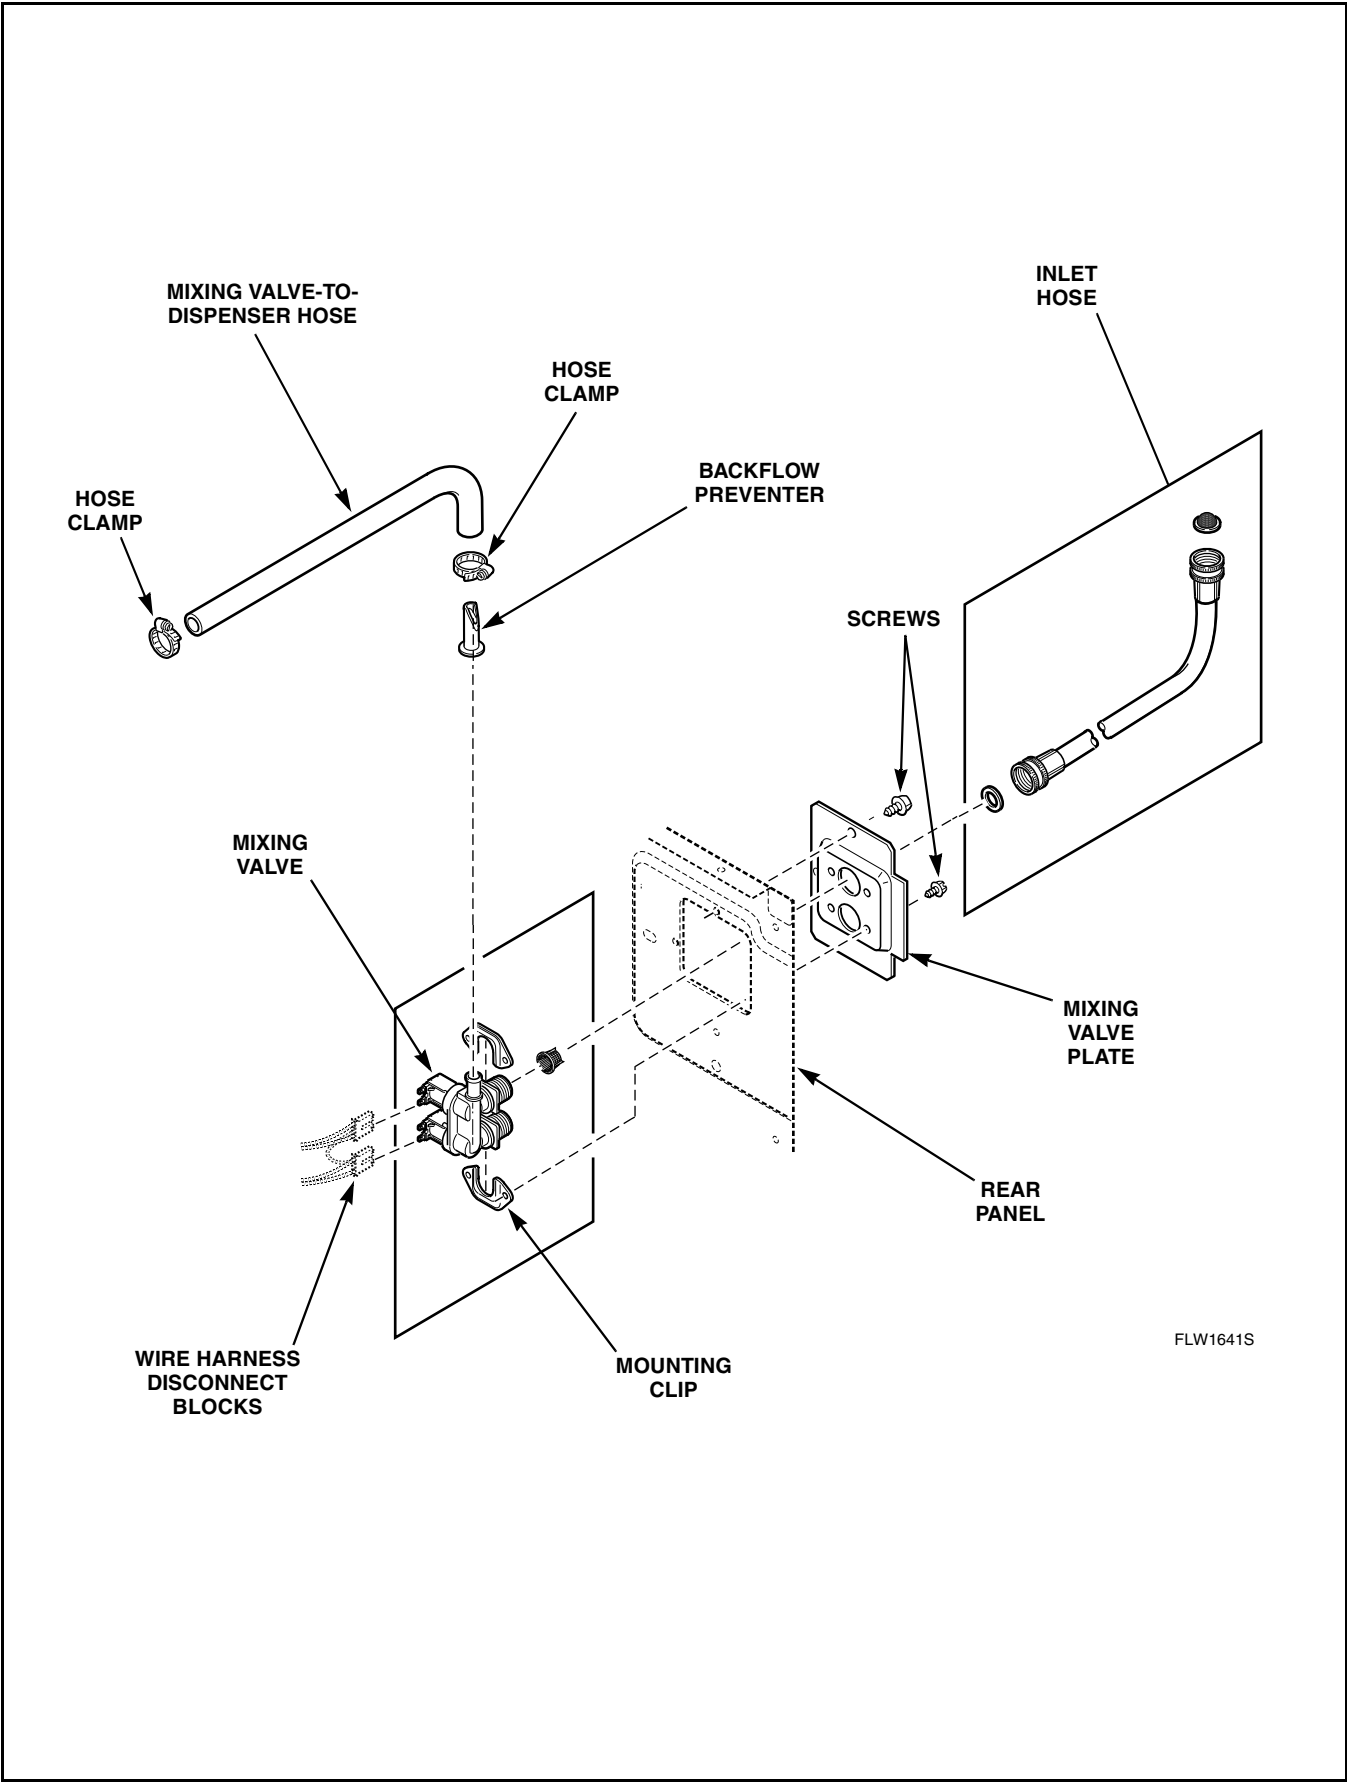

Figure 17
- a. Mixing valve is located on upper back right corner of rear panel. Refer to *Figure 17*.
- c. Loosen hose clamp and remove mixing valve-to-dispenser hose at the mixing valve. Refer to *Figure 17*.
- d. Remove wire harness disconnect blocks from mixing valve solenoid terminals. Refer to *Figure 17*.
- e. Go to rear of washer and remove screw holding mixing valve and plate to rear panel, then remove valve and plate out through opening in rear panel. Refer to *Figure 17*.
- f. Remove screws holding valve to mixing valve plate. Refer to *Figure 17*.